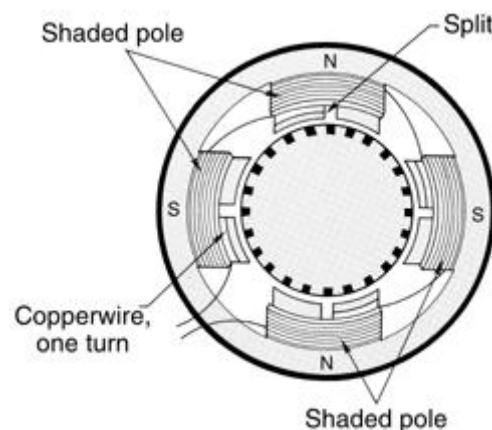

Figure 1: Rings in shaded-pole motor distort alternating field sufficiently to cause rotation.
- *Shaded pole motors* have a continuous copper loop wound around a small portion of each pole, Figure 1. The loop causes the magnetic field through the ringed portion to lag behind the field in the un-ringed portion. This produces a slightly rotating field in each pole face sufficient to turn the rotor. As the rotor accelerates, its torque increases and rated speed is reached. Shaded pole motors have low starting torque and are available only in fractional and subfractional horsepower sizes. Slip is about 10%, or more at rated load.